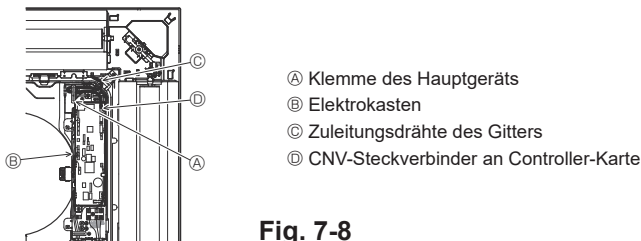

Fig. 7-8
7.4.4. Elektroanschlüsse (Fig. 7-8)